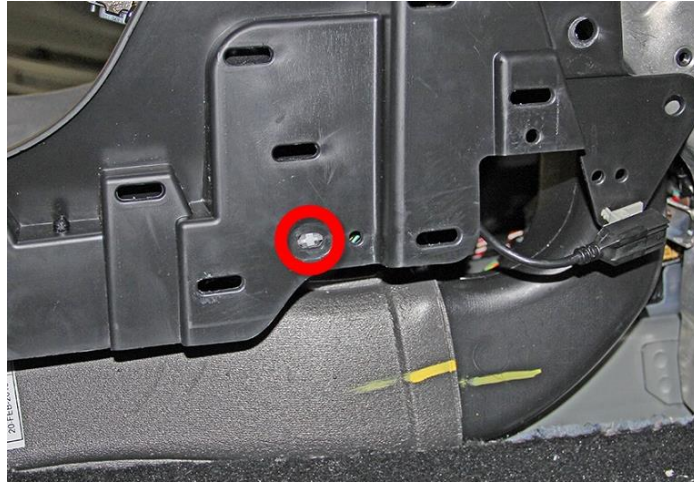

Figure 33. Releasing the 12V electrical connector from the center console
- v. Release the fir tree clip that secures the 12V electrical connector to the center console (Figure 33).